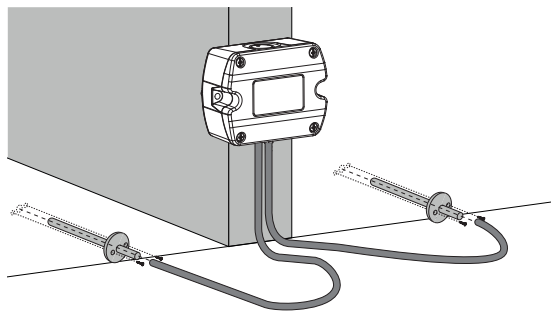
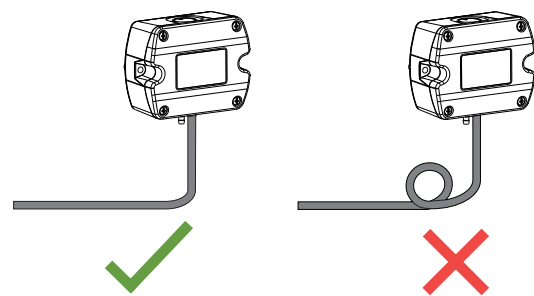

Fig. 6 Pressure connection
Fig. 7 Pressure hose route
- Connect the pressure hose (included in the scope of supply) first to the EE600 and then to the duct. Route the pressure hose for avoiding sharp bends which might lead to the hose obstruction (Fig. 6 and Fig. 7).